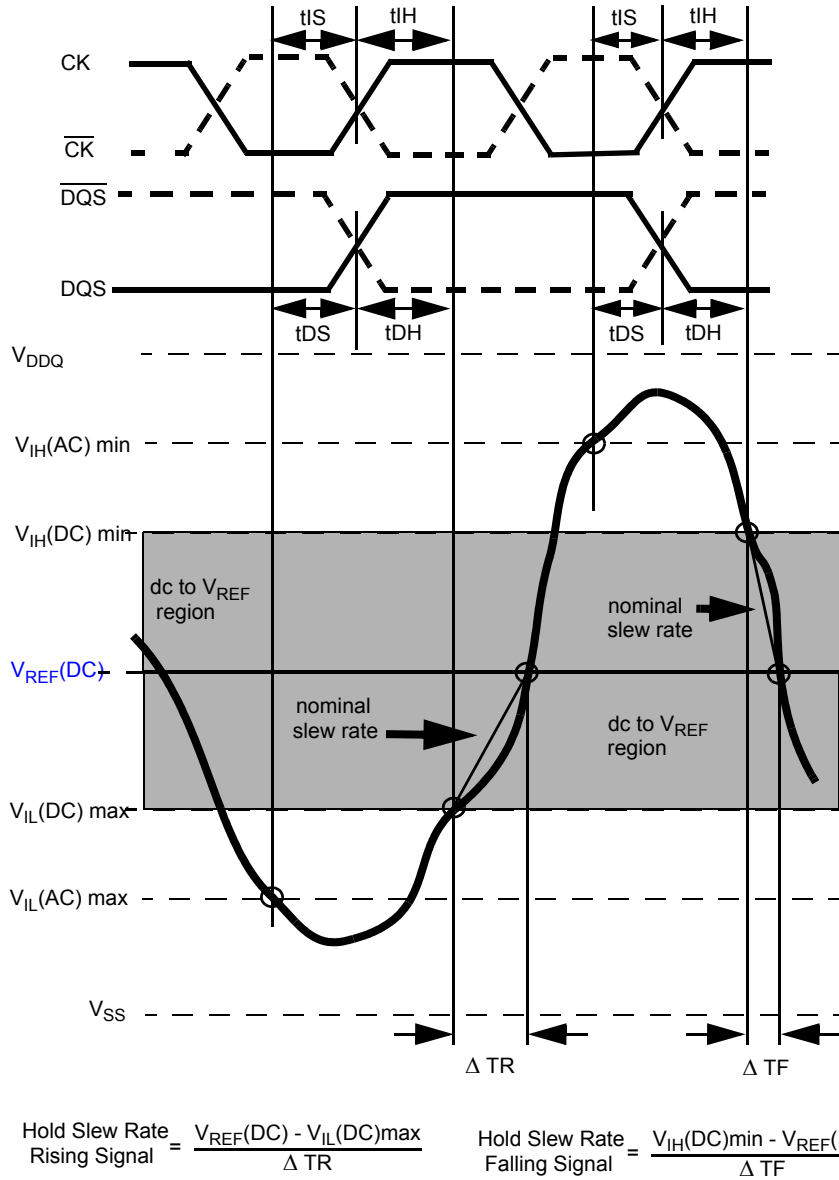
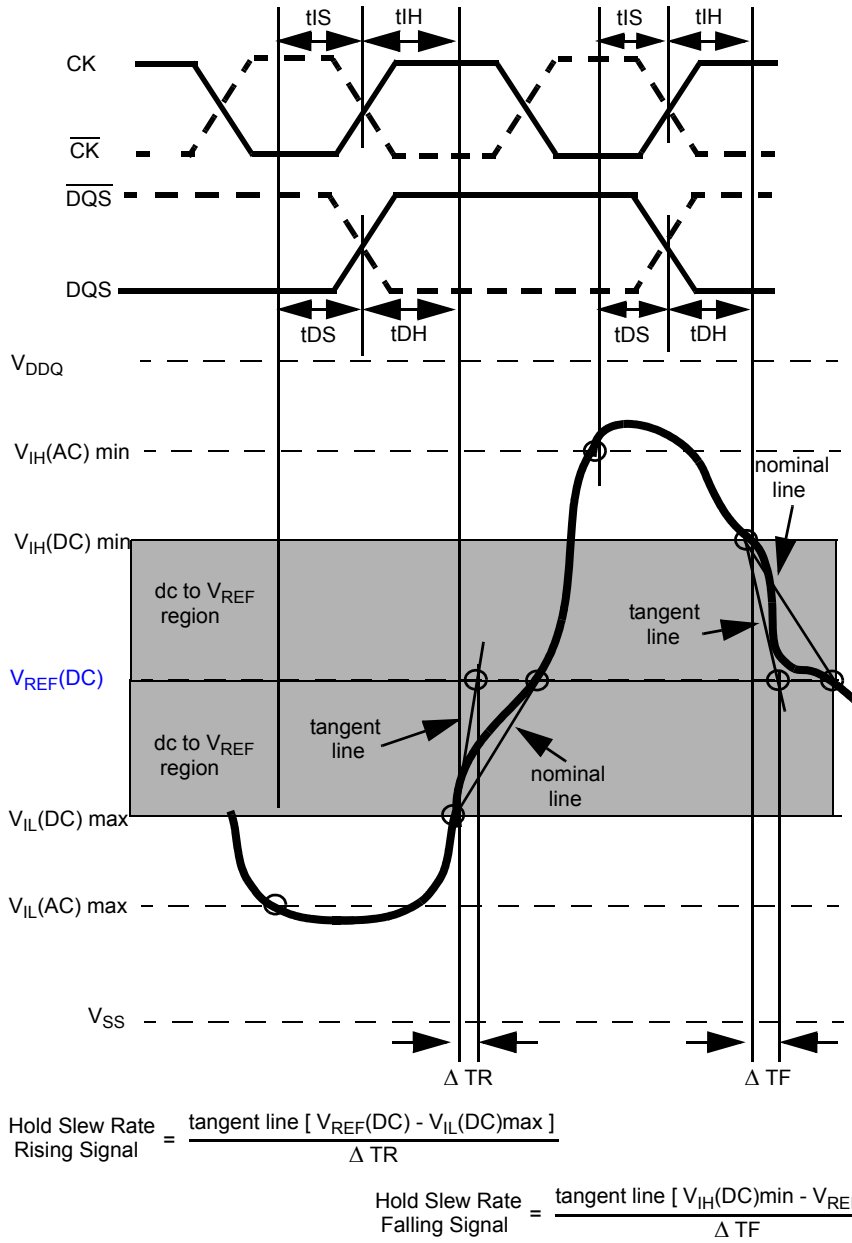

Figure 22. Illustration of nominal slew rate for hold time t_{DH} (for DQ with respect to strobe) and t_{IH} (for ADD/CMD with respect to clock).
Figure 24. Illustration of tangent line for hold time t_{DH} (for DQ with respect to strobe) and t_H (for ADD/CMD with respect to clock)
Hold (tIH) nominal slew rate for a rising signal is defined as the slew rate between the last crossing of VIL(DC)max and the first crossing of VREF(DC). Hold (tIH) nominal slew rate for a falling signal is defined as the slew rate between the last crossing of VIH(DC)min and the first crossing of VREF(DC). If the actual signal is always later than the nominal slew rate line between shaded 'dc to VREF(DC) region', use nominal slew rate for derating value (see Figure 22). If the actual signal is earlier than the nominal slew rate line anywhere between shaded 'dc to VREF(DC) region', the slew rate of a tangent line to the actual signal from the dc level to VREF(DC) level is used for derating value (see Figure 24).